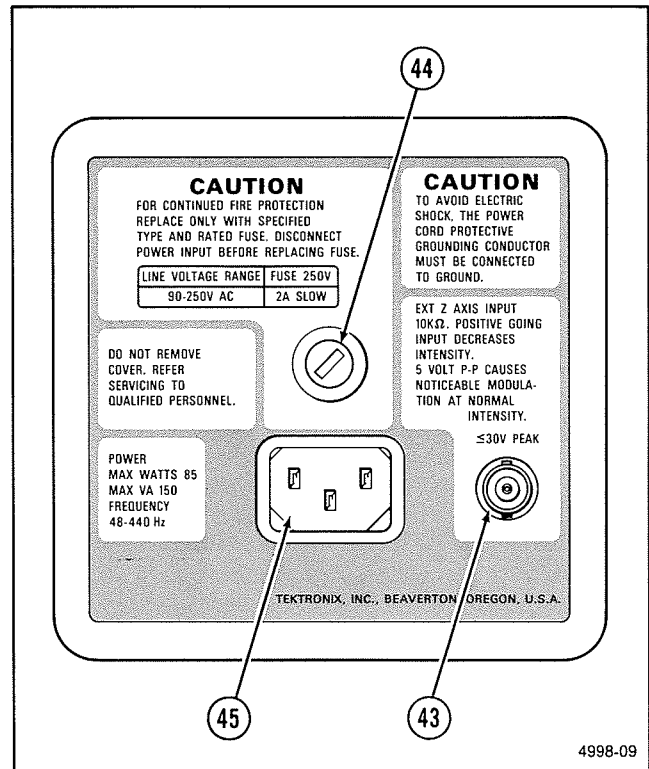

Figure 3-6. Rear panel.
Refer to Figure 3-6 for location of items 43 through 45.
- ④3 **EXT Z-AXIS Input Connector**—Provides an input connector allowing external signals to be applied to the Z-Axis circuit to intensity modulate the NON STORE waveform display. Applied signals do not affect the display waveshape. External signals with fast rise and fall times provide the best defined intensity modulation. Noticeable intensity modulation is produced at normal viewing intensity levels by a 5 V p-p signal. The Z-Axis signals must be time-related to the trigger signal to obtain a stable intensity-modulation pattern on the displayed waveform.